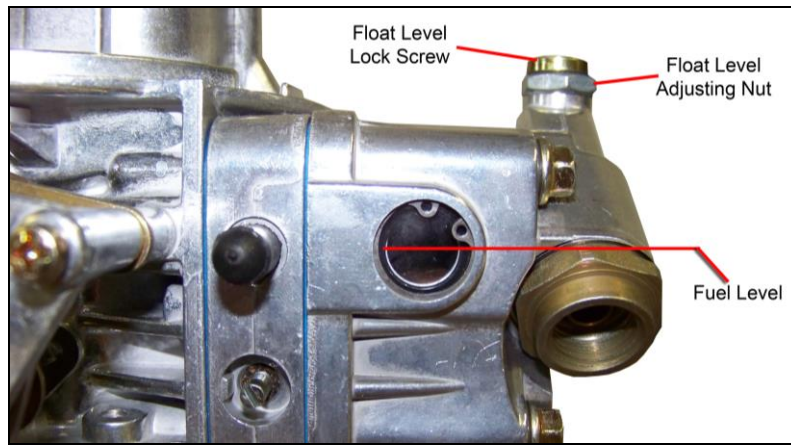

Figure 14
- Observe the sight glass for the fuel level. If none is seen, the level is too low. If it is higher than the middle of the sight window, it is too high. **NOTE:** A properly set float level will have the fuel level located at the middle or slightly below the middle of the sight window, as shown by the line in Figure 14.